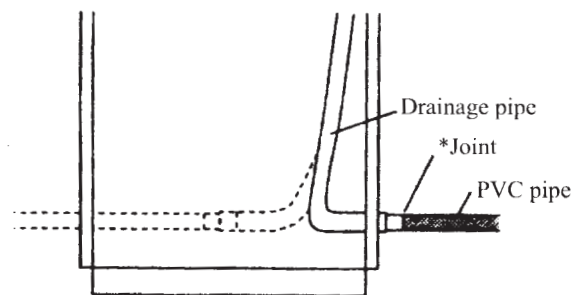

Fig 28
- (1) Use PVC pipe and thread it through one of the four passing holes of the indoor unit and connect it to drainage pipe joint. Use binder to bind the joint tightly to avoid leaking.
- (2) The drainage pipe must be sloped downwards to prevent water from accumulating in the pipe.
- (3) Use thermal insulation tape to wrap the joint (see Fig. 28) tightly.